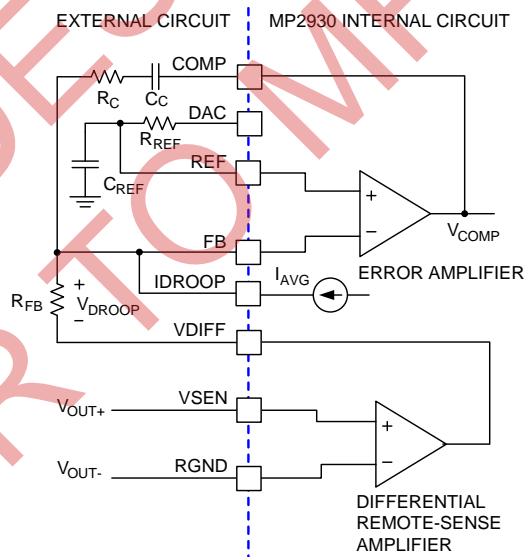

Figure 4—Output Voltage and Load-line Regulation with Offset Adjustment
The compensation network shown in Figure 4 assures that the steady-state error in the output voltage is limited only to the error in the reference voltage (output of the DAC) and offset errors in the OFS current source, remote-sense and error amplifiers.
The output of the error amplifier (V_{COMP}) is compared to sawtooth waveforms to generate the PWM signals. The PWM signals control the timing of the MP86961 and regulate the converter output to the specified reference voltage. The internal and external circuitry, which control voltage regulation are shown in Figure 4.
As shown in Figure 4, a current proportional to the average current of all active channels (I_{AVG}) flows from FB through a load-line regulation resistor R_{FB} . The voltage drop across R_{FB} is proportional to the output current. It can be derived from Equation (6):
The load-line regulation resistor is labeled R_{FB} in Figure 4. Its value depends on the desired load-line requirement of the application.